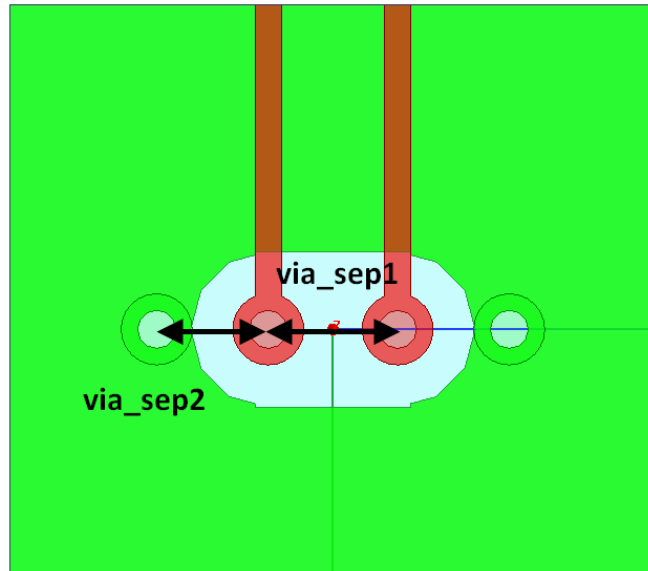

Figure 2. The separations of vias
1. You should have two signal and two ground vias in your design as shown in Figure 2.